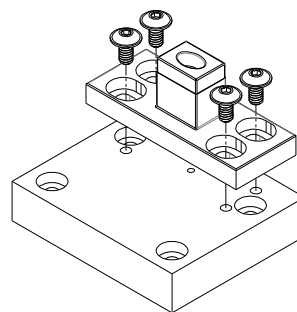
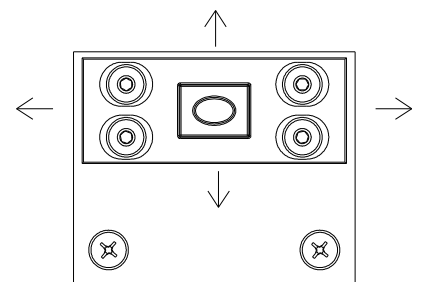

Figure 13:
Figure 14:
3. Assemble the top section of the Archetype Floor Pivot using a $5/32$ " hex key (Figure 13). Verify and adjust the position of the Archetype Floor Pivot as necessary (Figure 14), retighten.